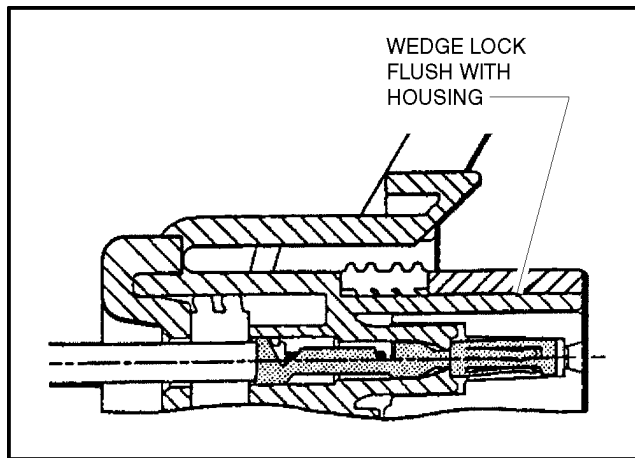

Figure 7-9. Connector Assembly Figure 4
4. Slide the wedge lock into the housing until it is flush with the housing (See Figure 7-9.)